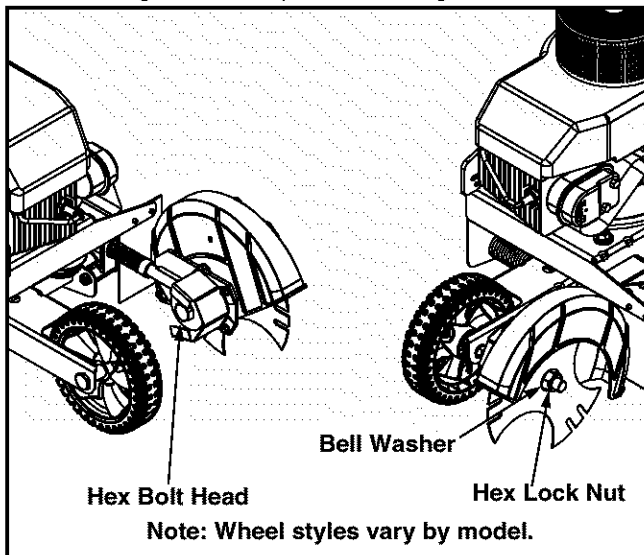

Figure 10
- Use two wrenches (one wrench to prevent the hex bolt head from spinning and the other to unthread the hex lock nut) to remove the hex lock nut and bell washer that secure the edger blade, leaving the dual edger blade in place. See Figure 10.
- Use two wrenches (one wrench to prevent the hex bolt head from spinning and the other to remove the hex lock nut and bell washer) to remove the edger blade. Refer to Figure 10.